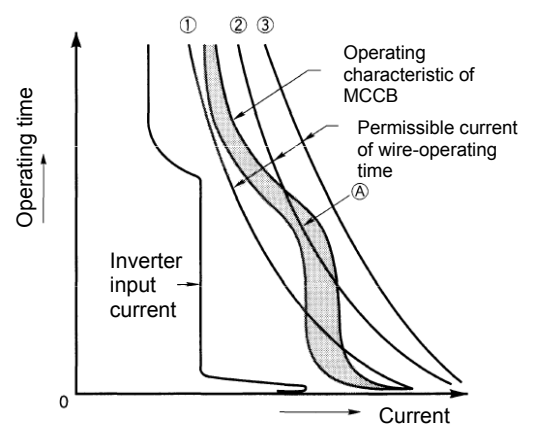

Figure 4.5.1-1: Protection coordination between MCCB and wire
Figure 4.5.1-1 shows the operating characteristic of an MCCB. The right side of this operating characteristic curve is the operating range, and the left side is the non-operating range. Judging from this curve, the wire showing the characteristic ③ is a proper wire. (The wires with the characteristics ① and ② are improper.)
① Continuous domain
Note that the short-time domain may intersect with the permissible current characteristic of the wire at a point close to the point of intersection of the time delay trip and instantaneous trip characteristics of an MCCB (portion A in Figure 4.5.1-1).
Consider FSLC wires based on the short-time characteristic shown in Figure 4.5.1-2 and the operating characteristic curve of the MCCB. For the operating characteristic curve of the MCCB, see the catalog for it or engineering documents.